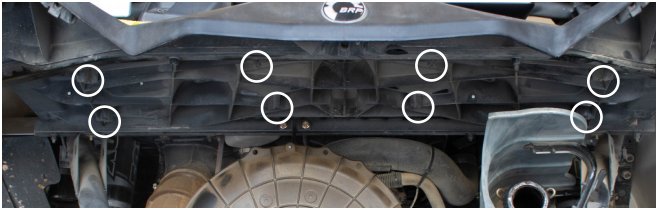

Fig. 4
**Step 1.** Use the 8 No. 10 self-tapping screws, attach the heatshield to the holes outlined in Fig. 4 using a T-25 Torx driver.